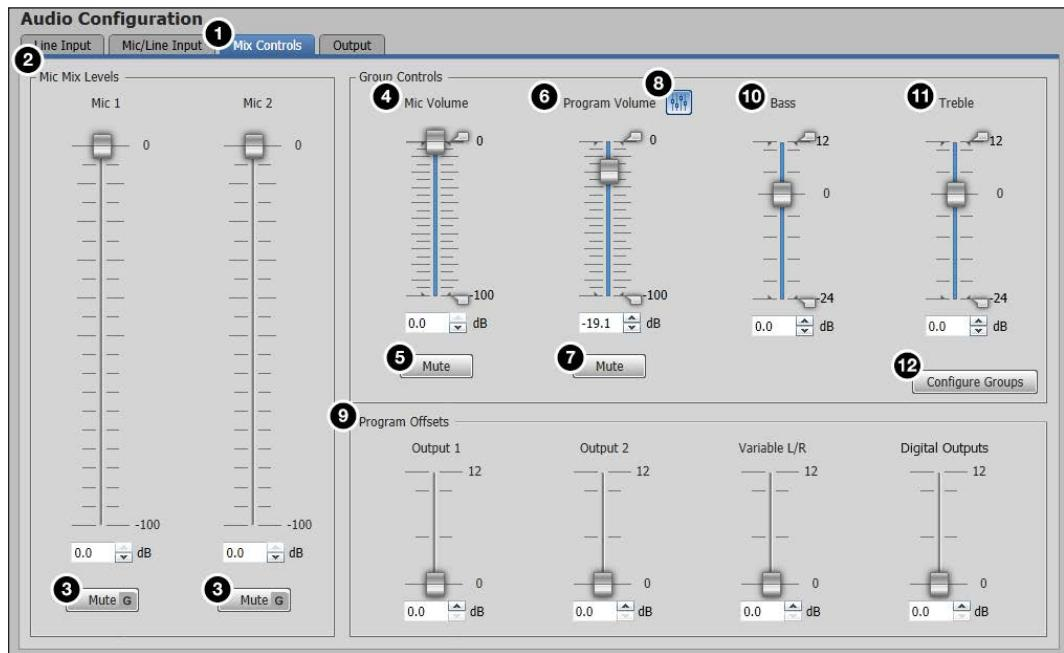

Figure 73. Mix Controls Tab
After the audio inputs have been properly configured, select the **Mix Controls** tab (see figure 73, ①) to mix microphone levels, create a mix of the microphone and program volume, and set bass and treble settings.
1. Click the **Mix Controls** tab (see **figure 73**, **1** on the previous page).
1. Click the **Program Volume Offsets** button (see figure 73, 8 on page 105). The Program Offsets panel appears below the Group Controls panel.
2. Adjust the level of each desired output in any of the following methods (9):
1. Click the **Mix Controls** tab (see **figure 73**, ① on page 105).
2. Adjust the level using any of the following methods (see **figure 73**, ⑩-⑪):